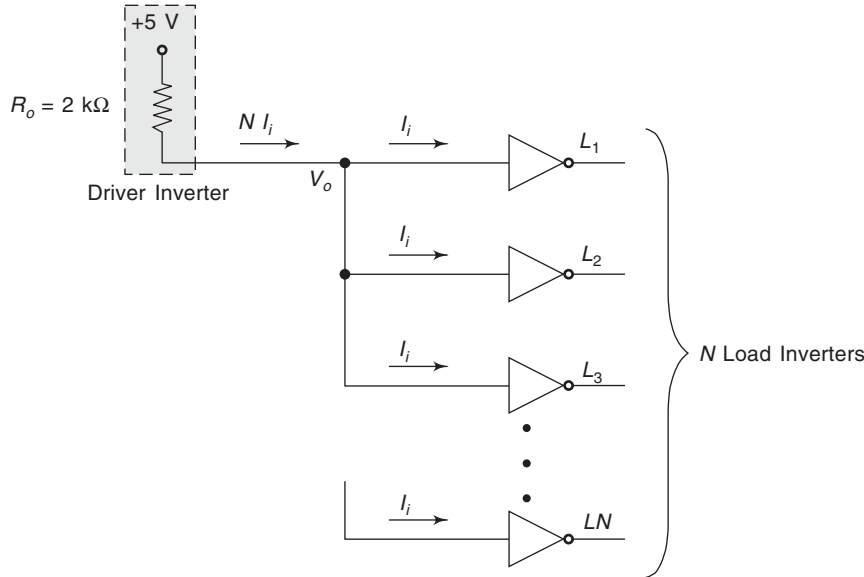

Fig. 9.47
31. The output of an inverter is modeled under static conditions by a voltage source of approximately 5 V in series with a resistance of 2 kΩ at logic HIGH, and a source of approximately 0.9 V in series with a resistance of 500 Ω at logic LOW. If the input currents drawn by the inverter are zero at logic LOW and 2.25 μA at logic HIGH, calculate the fan-out. Explain the difference between static and dynamic fan-out. (Fig. 9.47)